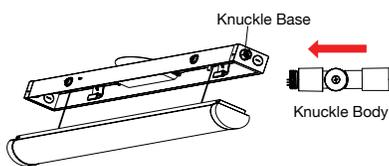

Fig. 5
4. Thread the knuckle body back on to the knuckle base. (Fig. 5 & 6).